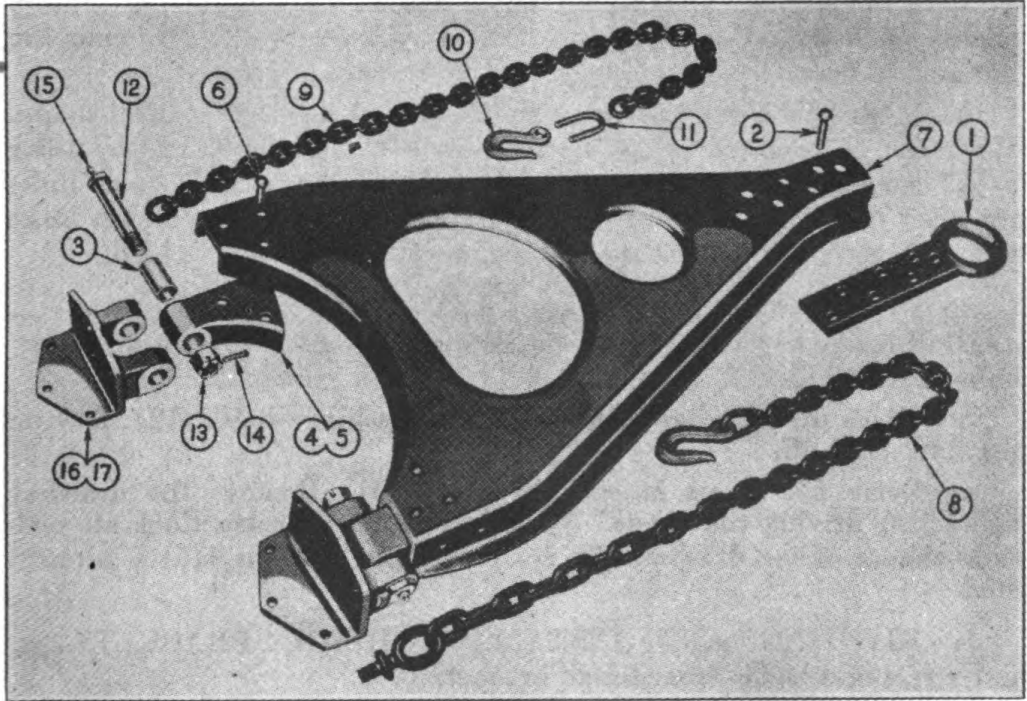
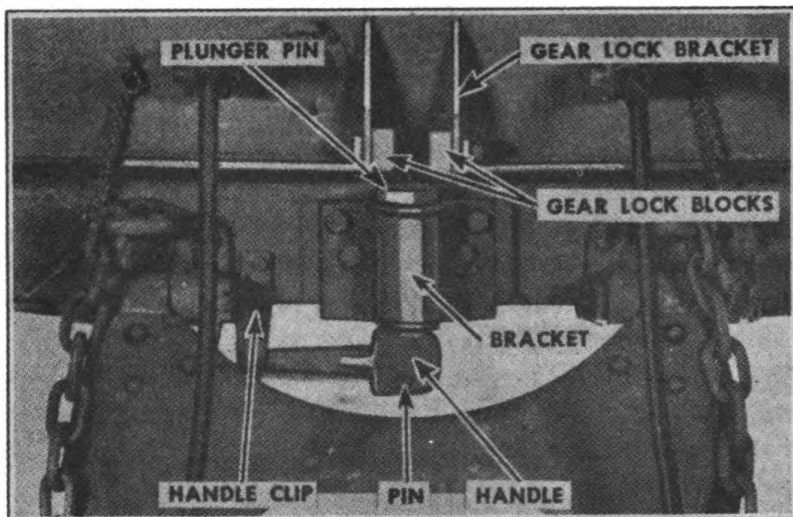

FIGURE 38. REBUSHING DRAWBAR
FIGURE 39. GEAR LOCK ASSEMBLY
1. **REBUSHING DRAWBAR** (Fig. 38).—*a.* New drawbar bushings (3) come from factory reamed to the proper diameter and care should be used when replacing the new bushing not to burr or mushroom their ends in installation.
2. **REPLACING EYE** (Fig. 38).—*a.* This operation can be performed with the drawbar attached to the gear frame.
4. INSTALLING DRAWBAR FRAME BRACKETS (Fig. 38).—
a. Bolt frame brackets (16) to the frame crossmember using three $\frac{1}{2}$ " bolts in each bracket.
b. Place the drawbar in place and insert hinge bolts (12), leaving the nuts (13) off.
c. Drive five rivets in each bracket (16). Remove the drawbar and finish driving the rivets. By following these instructions all possible chance of the drawbar (7) not fitting the brackets (16) is eliminated.
5. RIVETING AND INSTALLING HINGE BRACKETS.—*a.* Cut rivets and welds from hinge brackets (4).
b. Bolt replacement hinge bracket (4-5 Right and Left) to draw bar (7), using three $\frac{7}{16}$ " bolts.
c. Install drawbar (7) to frame brackets (16).
e. Remove drawbar from frame brackets (16) and weld. By following the above instructions you eliminate all possible chance of the draw bar (7) not fitting frame brackets (16).
6. GEAR LOCK—*a. Removal* (Fig. 39).—(1) Remove the four bolts that hold gear lock to gear frame.
b. Handle replacement.—(1) Remove gear lock from trailer.